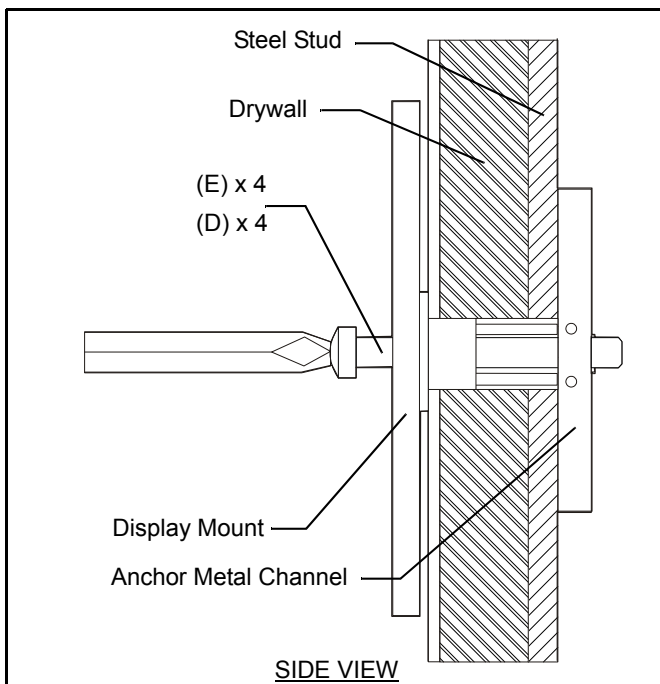

Figure 6
11. Place mount over anchors and align mounting holes in display mount with holes in anchors. (See Figure 6)
12. Place flat washer (E) onto Phillips pan head screws (D).
13. Insert 1/4-20 x 1-3/4" Phillips pan head screw (D) with flat washer (E) through mounting hole in display mount and into anchor (F) and tighten until flush against mount. DO NOT overtighten!